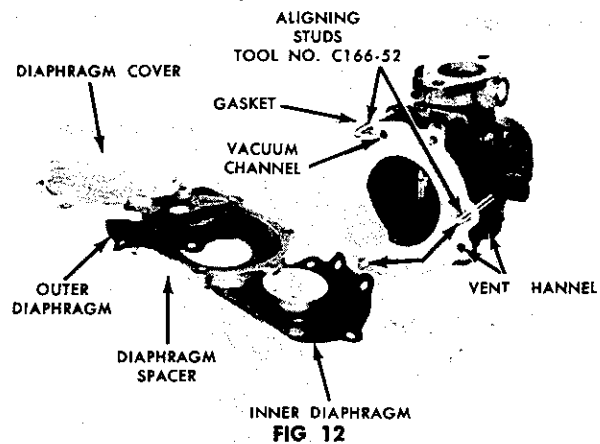

FIG. 12
9. Install three (3) aligning studs, Tool C166-52, in casting. Fig. 12.
10. Refer to Fig. 12. Install diaphragm assembly components as follows: